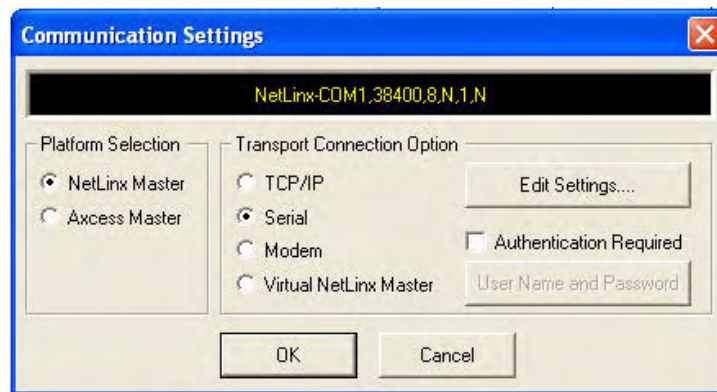

FIG. 82 Communications Settings dialog box
2. Click the **Communications Settings** button to open the *Communications Settings* dialog (FIG. 82).